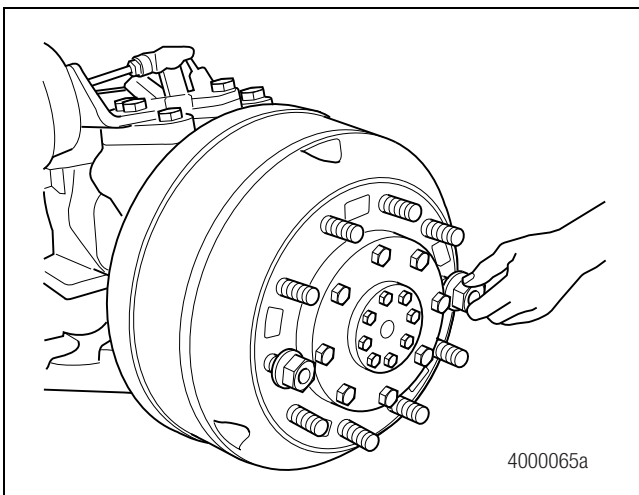

Figure 6.24
- Install the brake drum. Figure 6.24.